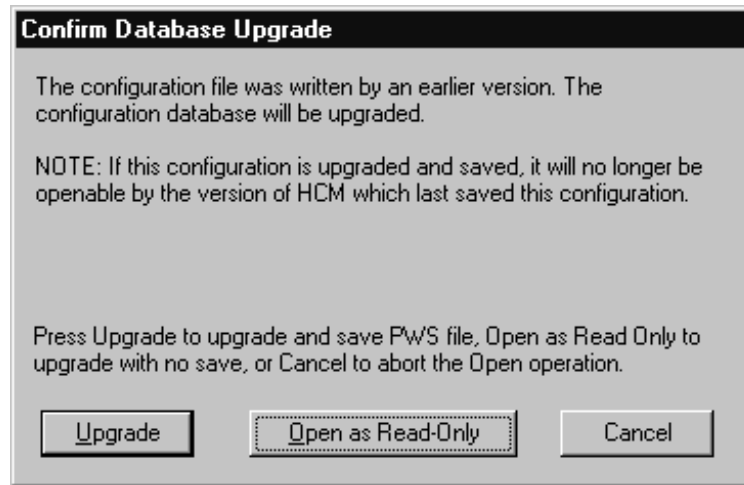

Figure 42. Confirm Database Upgrade
1. Open the pre-V1R7 configuration file (**File --> Open**). HCM prompts you to either upgrade or open the file as read-only (Figure 42). It is recommended to use the **read-only** option, because this choice will keep a backup of the original configuration file. Or you can load a pre-V1R7 IODF into a new or existing, pre-V1R7 configuration file (**File --> IODF**). Depending on the size of the IODF, this process can take quite some time because HCD converts the loaded IODF data into the new version 5 format.